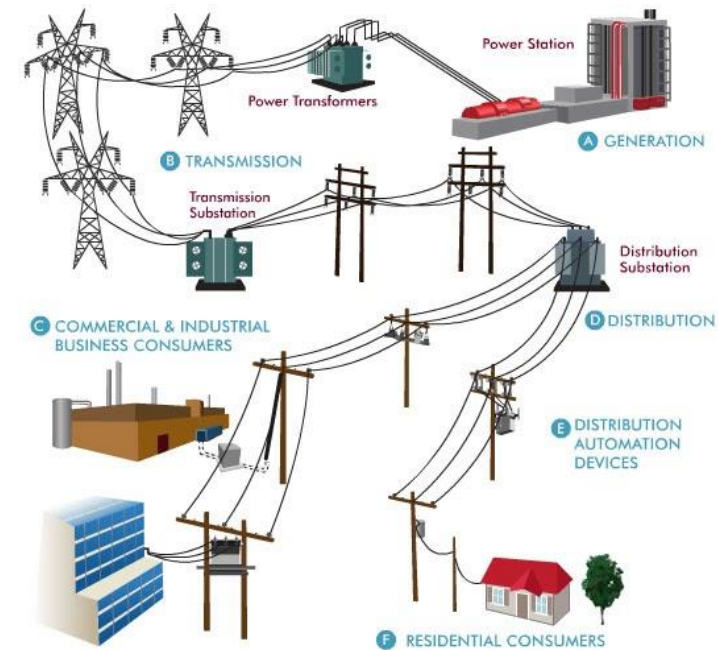

Figure 4: National Grid System
- **Figure 4** shows a simple illustration of the National Grid System.